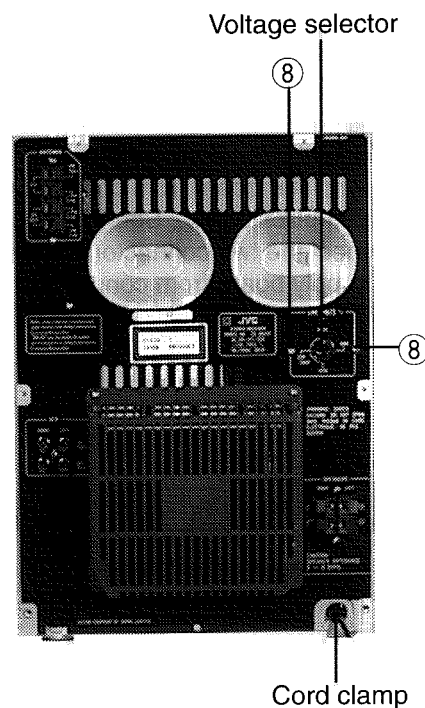

Fig. 9
■ Removal of the PowerTransformer Assembly (See Figs 9,10)
4. Remove the two screws ⑧ fastening the voltage selector to the back side of the main unit.
(See Fig.9)
5. Remove the four screws ⑨ fastening the power transformer assembly to the back side of the main unit. (See Fig. 9)
(See Fig. 9)